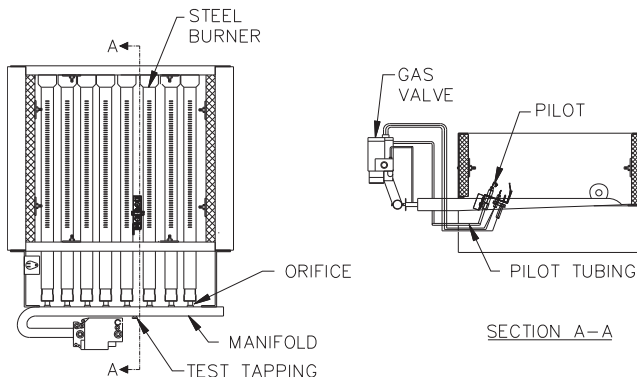

Figure 7.1: Gas Valve, Manifold and Burner Assembly - Intermittent Ignition
13. The gas manifold and control assembly are made of gas-tight, completely factory assembled and installed components of the base assembly. See Figure 7.1 and 7.2.